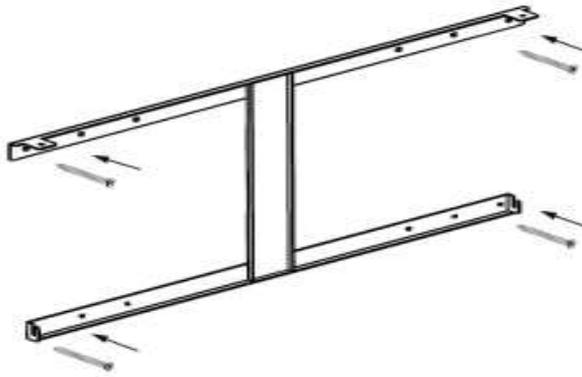

Figure 4
Step 4: Fix the mounting bracket using four M5×8 screws (Figure 4).